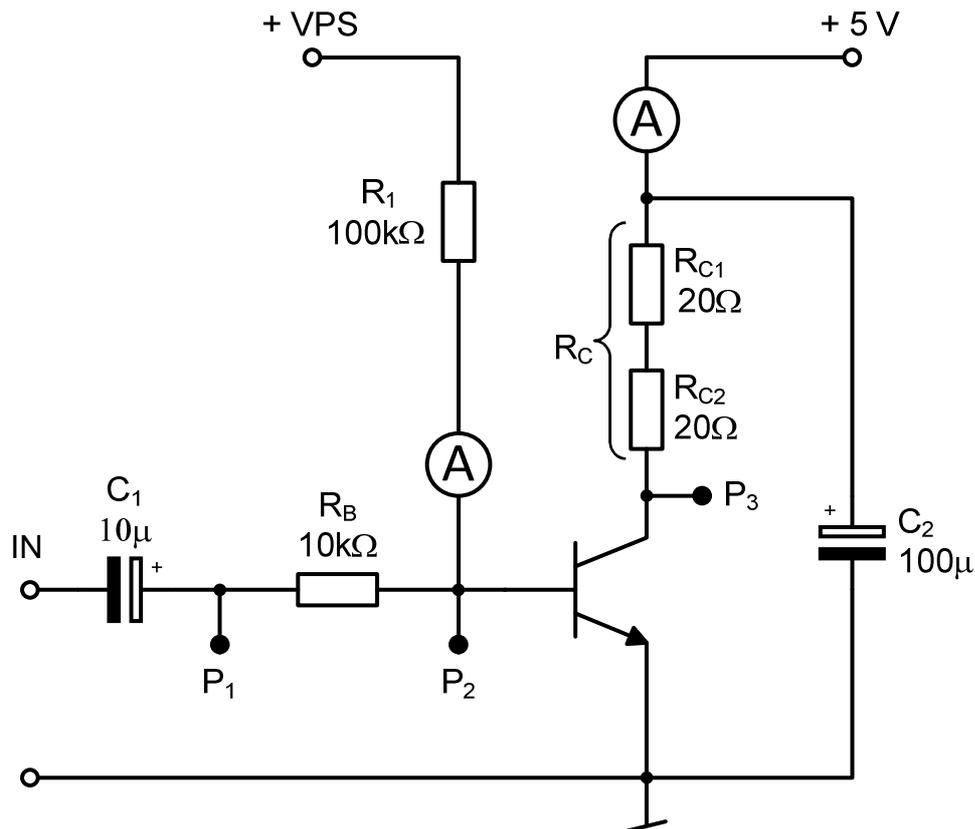

Fig. 1. A circuit used for measurements and determination of small-signal parameters
REMARK: Measurements of all the small-signal parameters are performed in a specific operating point of the transistor. Since the measuring system is powered from a DC voltage source, it is sufficient to control the collector current while maintaining its constant value. Most of the small-signal parameters can be measured in the measurement system shown in Fig. 1. The values of the elements were chosen to meet (at least partially) the necessary conditions to determine the individual parameters. There may be a need to change the value of the resistor R_1 for different types of transistors (for low gain transistors it should have a value, e.g. 4,7 k Ω , and for those with high gain it can be 100 k Ω). Capacitor C_1 introduces a short circuit for AC signal, in order to eliminate the influence of the internal resistance of the ammeter on measurement results.
- Arrange the circuit to determine the small-signal parameters of bipolar transistor according to Fig. 1. DO NOT introduce the ammeter into the base circuit.